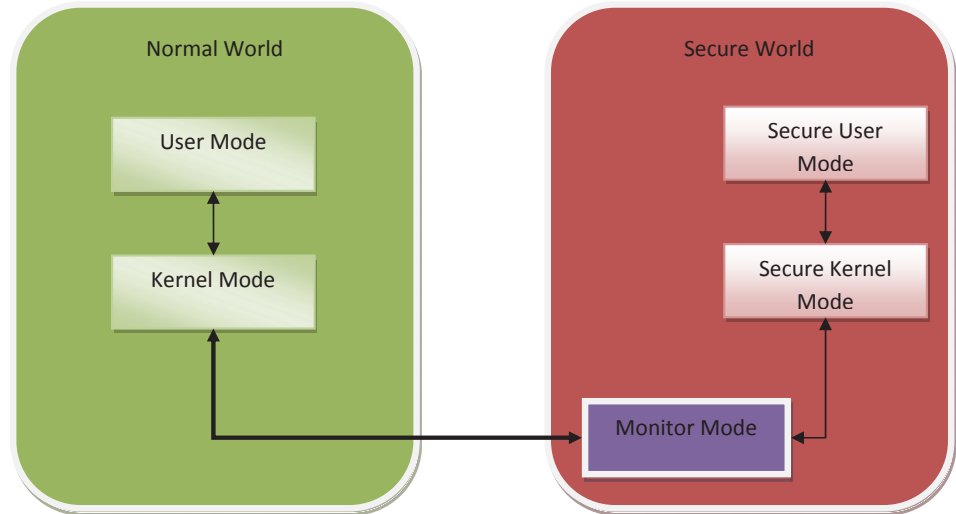

Figure 1: Normal and secure world environment¹
- **Separate secure environment.** TrustZone splits processor cores into two virtual cores, one operating in a normal world and the other working in a secure world (Figure 1). This mechanism essentially creates another level of execution privilege in addition to the traditional demarcation of user and kernel modes. Transitions between the two worlds are carefully controlled by monitor mode software. In addition, each virtual processor has access to its own virtual memory management unit (MMU) so that clear separation